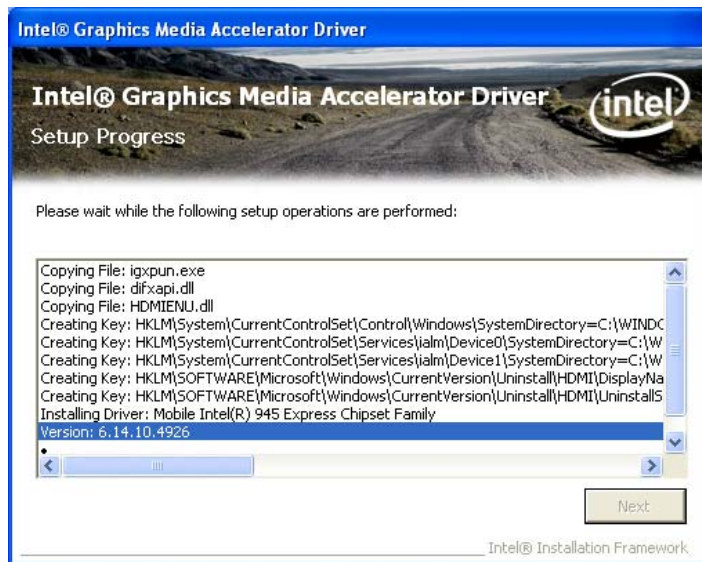

Figure 7-15: VGA Driver Setup Operations
Step 13: Setup Operations are performed as shown in Figure 7-15.